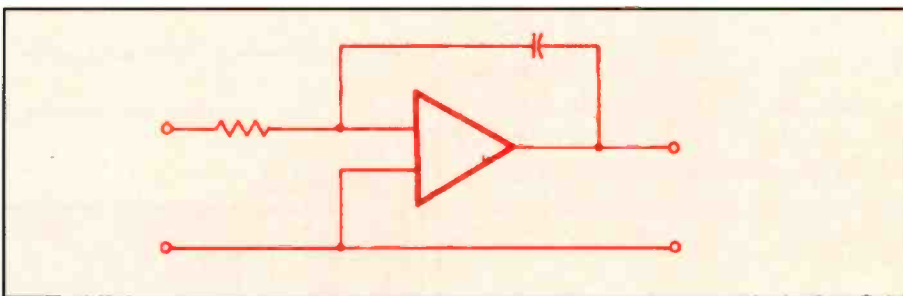

Figure 1. Is this a differentiating circuit or an integrating circuit?
8. The circuit in Figure 1 is called